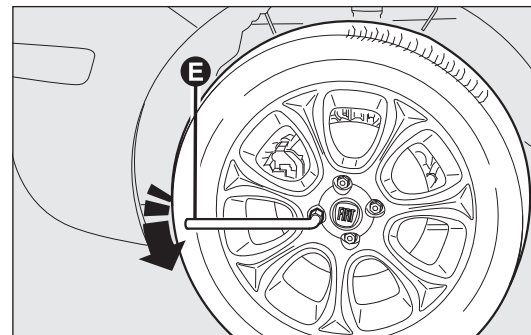

fig. 152
- loosen the bolts of the wheel to be replaced by about one turn with the wrench provided E-fig. 152; if you have alloy wheels, rock the car to make it easier to separate the rim from the wheel hub;